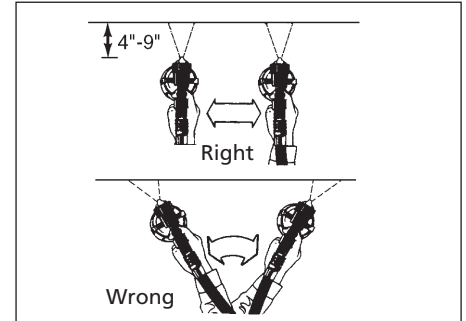

Figure 7 - Painting strokes
- Keep gun parallel and 4" - 9" from surface of object being sprayed. (See Figure 7). If the material delivery is adjusted for a small narrow pattern, it may be necessary to move closer to the work surface.